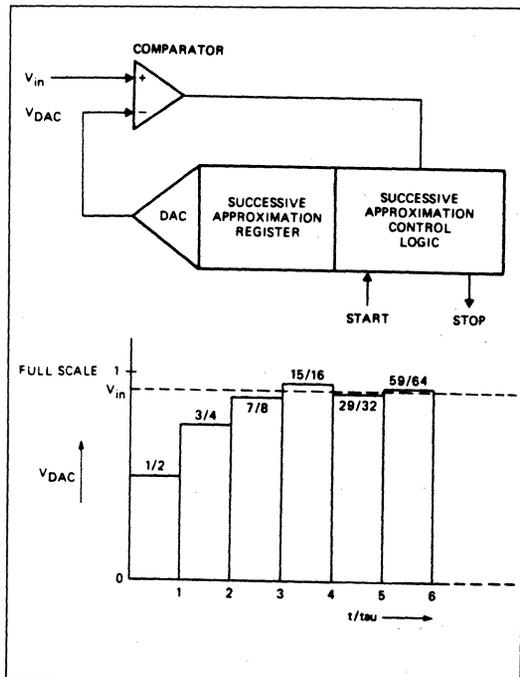

Figure 47. Successive Approximation ADC
Figure 47 shows the elements of a successive approximation (SA) ADC. The ADC contains a DAC which converts the contents of a successive approximation register to a voltage (VDAC) which is compared to the analog input voltage (Vin). The output of the comparator is fed to the successive approximation control logic which controls the successive approximation register. A conversion is initiated by setting ADCS in the ADCON register. ADCS can be set by software only or by either hardware or software